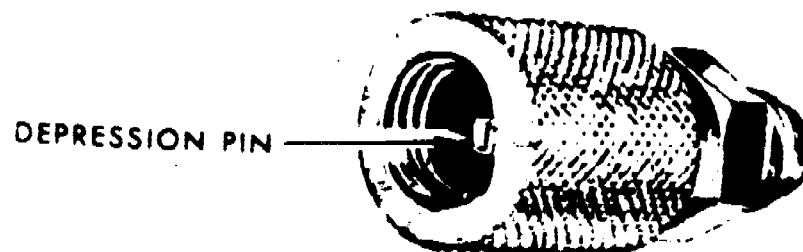

Figure 85. Gauge Hose Adapter.
1. Look into the ends of the hoses on the serviceman's gauge set. On one end or the other of the two gauge hoses there must be depression pins, see figure 84. If the hoses do not have the pins in them, you will have to use the adaption shown in figure 85. The depression pins in the hoses or hose adapters are necessary to open the dill core valves on the compressor. Remove caps from Dill valve gauge port openings.